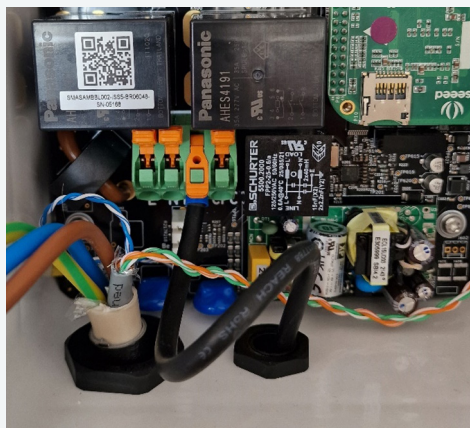

Figure 8: Reference Connection
- Terminate with a bootlace ferrule (Class 5 & 6 cable only) in the lever type connector labelled "REF". (As shown in Figure 8).